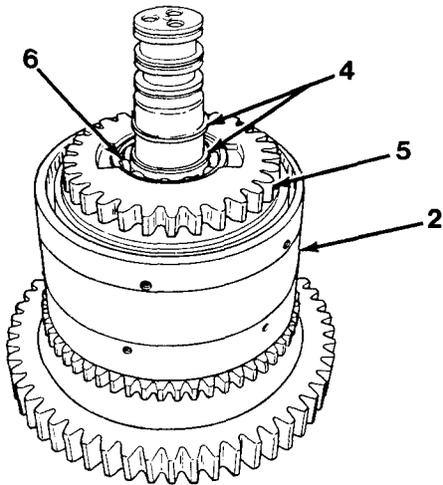
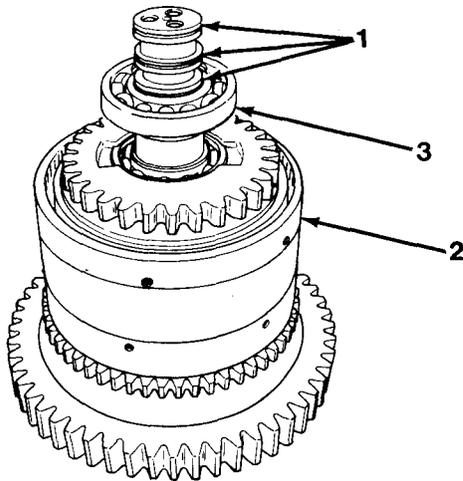

Figure 11-2
Figure 11-1
28. Install bearing (6) into high gear welded assembly (5, Figure 11-2).
29. Install two snap rings (4) on clutch shaft assembly (2).
30. Install bearing (3) on clutch shaft assembly (2, Figure 11-1).
1. Remove snap ring (1) from input shaft (2), Figure 11-1).
2. Remove snap ring (3) from input shaft (2).
3. Remove bearing (4) from input shaft (2) by using a press.
4. Remove bearing retainer (5) from input shaft (2).